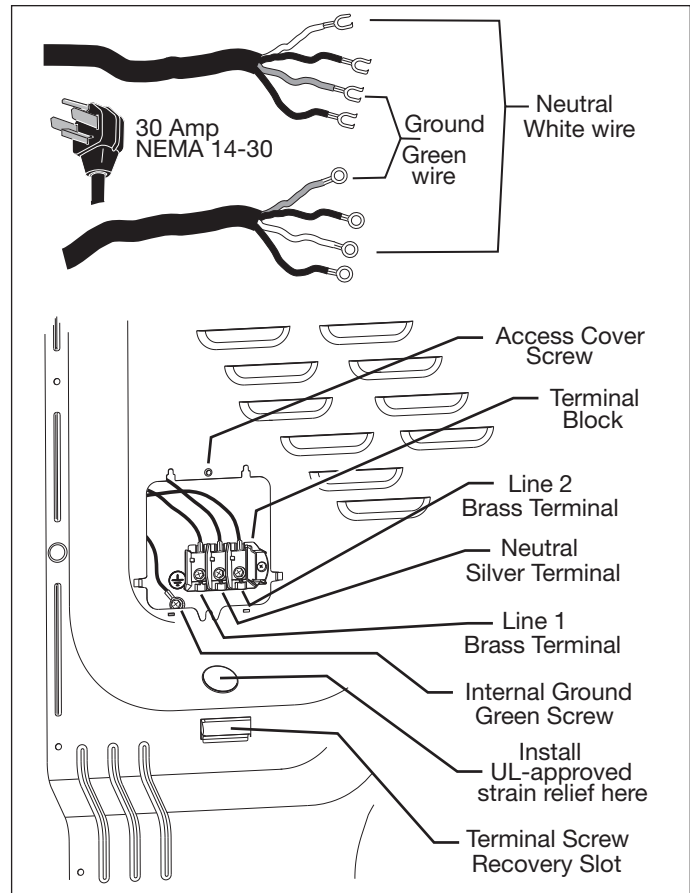

Figure 2-10.
4. Thread an UNPLUGGED, UL-approved, 30 amp. power cord, NEMA 14-30 type ST or SRDT, through the strain relief. (See Figure 2-10)